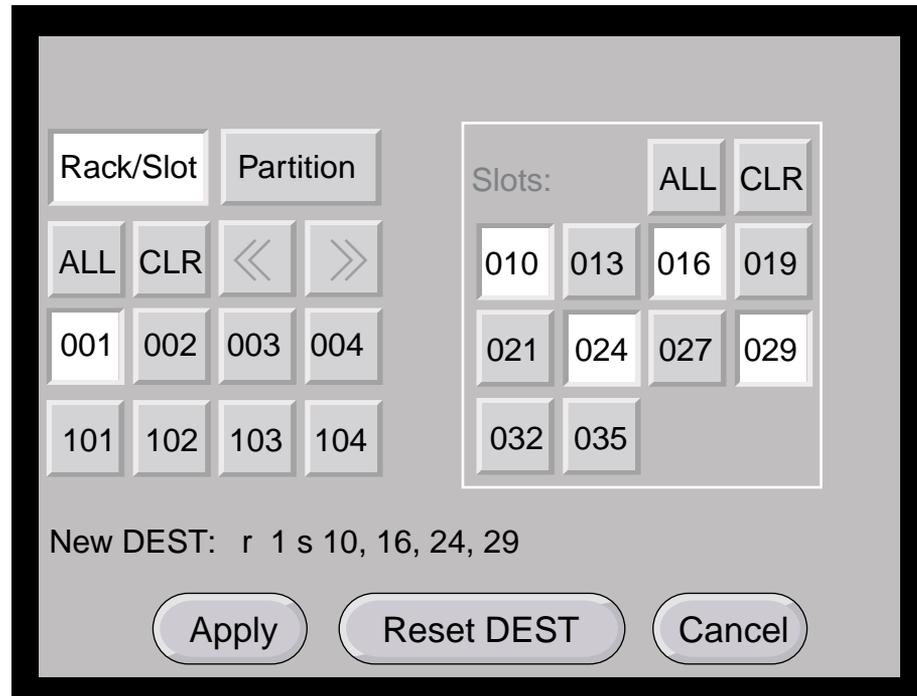
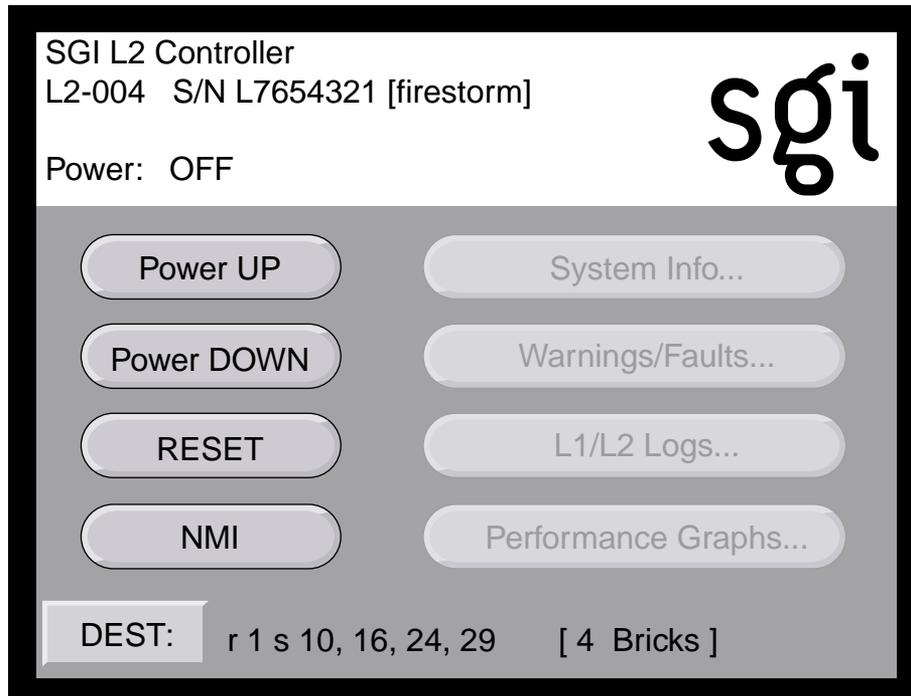

Figure 4-18 Slots Section
Figure 4-19 DEST Field on Home Window
If you want to select individual bricks to power off, select the rack from which you want to select bricks from the **Rack/Slot** segment of the display. For example, if you select rack **001**, a **Slots** section on the window with all the slots for bricks in rack 001 appears, as shown in Figure 4-18.
4. Select slots from the **Slots** section. (Figure 4-18 shows the selection of slots 010, 016, 024, and 029.) The **New DEST** setting changes to reflect your selections. After you make your selections, select **Apply**. The home window appears, which displays *r 1 s 10, 16, 24, 29* in the **DEST** field, as shown in Figure 4-19. This indicates that you have selected slots (bricks) 10, 16, 24, and 29 from rack 1 to power off.